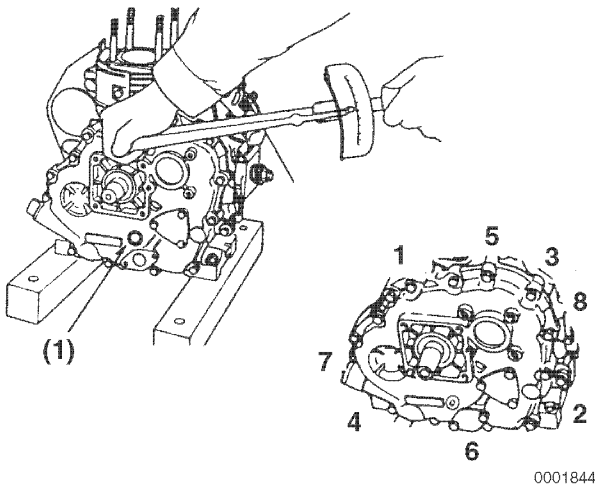

Figure 6-102
4. Install the crankcase cover (**Figure 6-102, (1)**) while pushing down lightly on the crankcase cover. Slowly turn the flywheel to allow the governor / oil pump drive gear to mesh with the camshaft gear. Maintain the light pressure while "wiggling" the cover slightly to align the balancer shaft bearing and the camshaft bearing with their respective pockets in the underside of the cover until the cover drops into place.
5. Tighten the crankcase cover bolts to the specified torque in two stages (1/2 then full torque) in the sequence shown (**Figure 6-102**). See *Special Torque Specifications* on page 6-18.
- Tighten the stiffener bolts after the bolts on the crankcase perimeter are tightened (**Figure 6-102**). See *Special Torque Specifications* on page 6-18.